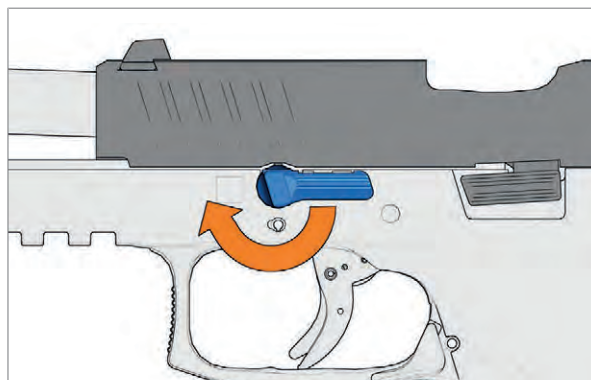

Fig. 48: Turning the disassembly lever
3. Turn disassembly lever clockwise as far as it will go (Fig. 48).